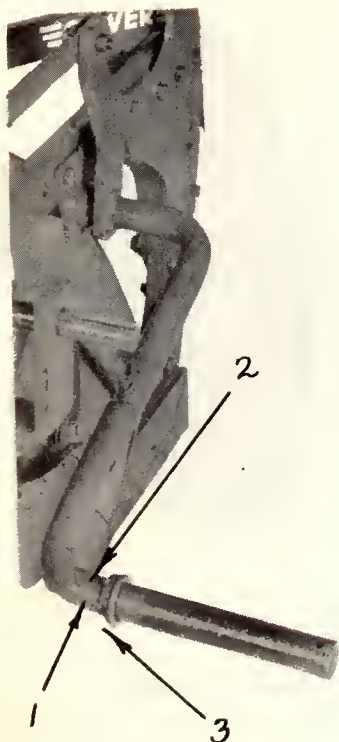

FIGURE 15
Slide the step washer (1) Figure 15 on the axle and secure with roll pin (2) inserted through one of the adjustable notches in step washer and hole in axle.